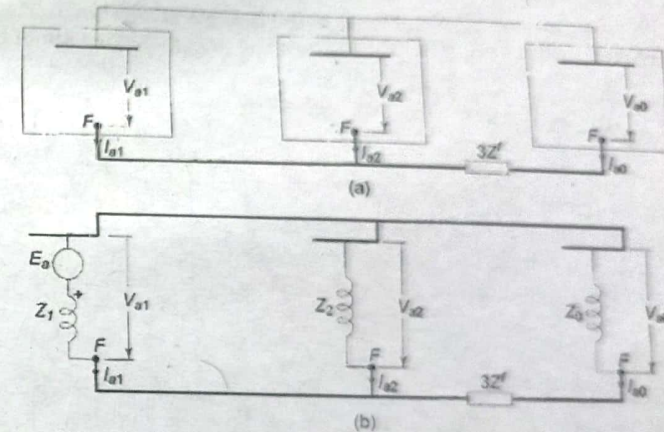

Fig. 2. Connection of sequence networks for a double line-to-ground (LLG) fault.
From Eqs. (1), (4a) and (5), we can draw the connection of sequence networks as shown in Figs. 2(a) and (b). The reader may verify this by writing mesh and nodal equations for these figures.
In terms of the Thevenin equivalents, we can write from Fig. 2(b) E_a